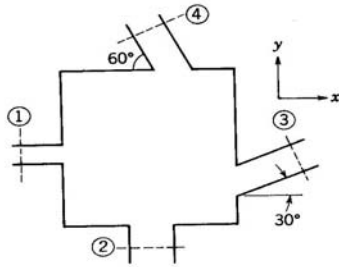

Fig. 1
1. Consider steady flow of water through the device shown in Fig.1. The areas are $A_1=0.2 \text{ m}^2$, $A_2=0.5 \text{ m}^2$, and $A_3=A_4=0.4 \text{ m}^2$. The mass flow rate out through 3 is given as 388 kg/sec . The volume flow rate in through section 4 is given as $1 \text{ m}^3/\text{sec}$, and $\vec{V}_1 = 10 \vec{i} \text{ m/sec}$. If properties are assumed uniform across all inlet and outlet flow sections, determine the flow velocity at section 2.